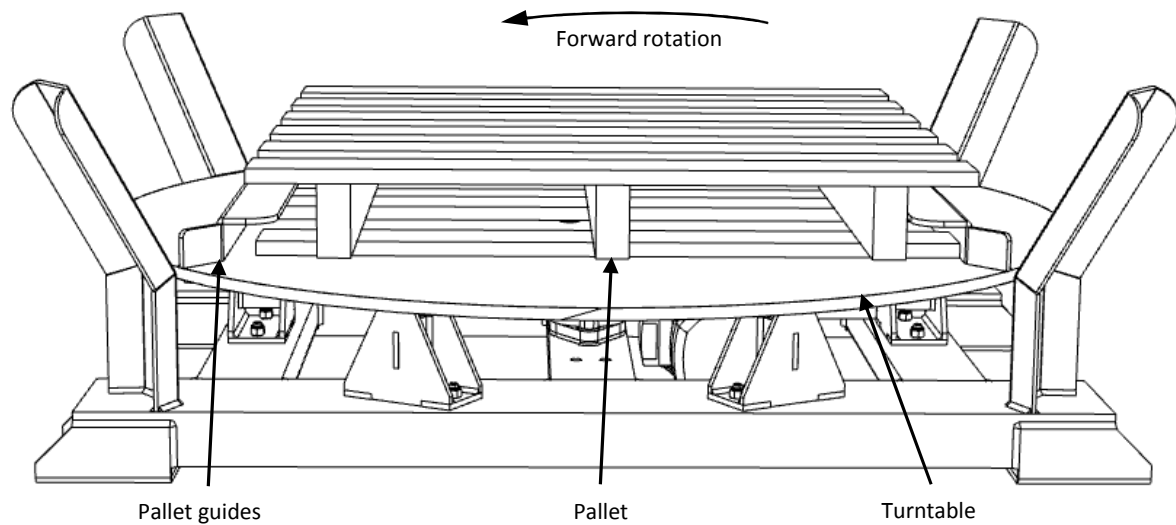

Figure 8: Pallet position on decoiler
4. Ensure that there is nothing lying on the turntable (see Figure 8) that can be thrown off when the decoiler spins.
the back of the guides. The pallet is now loaded and ready for decoiling. Figure 8 shows the decoiler with the pallet loaded in the correct position.